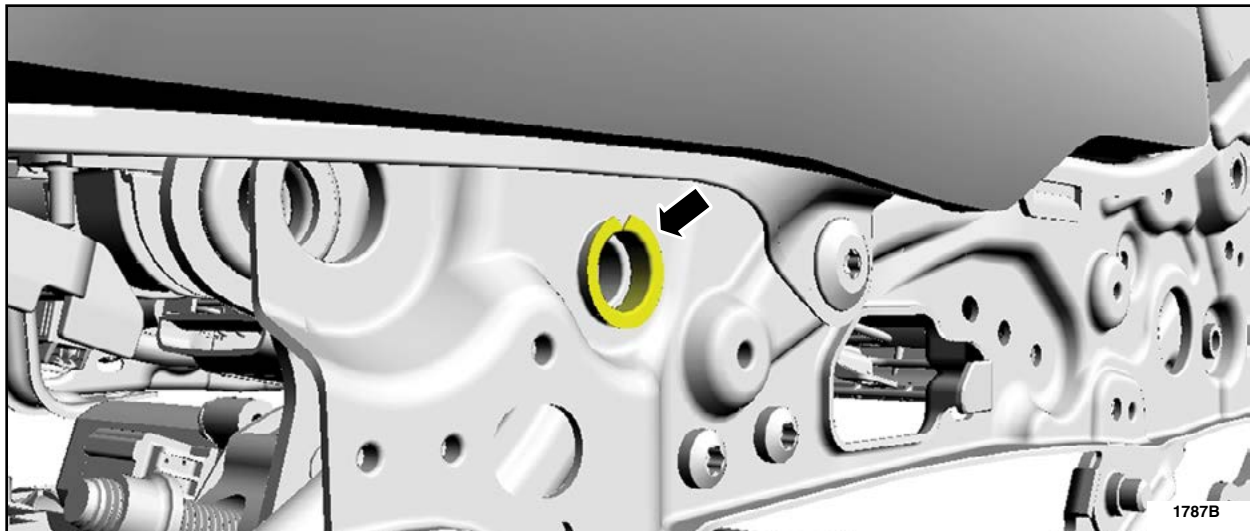

FIGURE 3
6. Inspect the seat track pivot link bolt bushing for signs of wear or damage. See Figure 3.